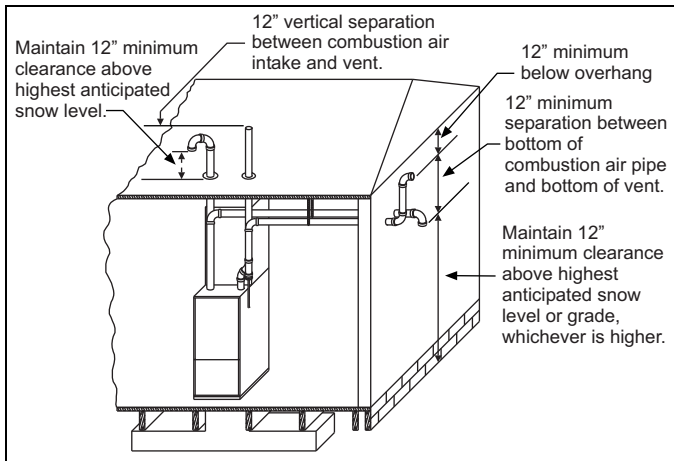
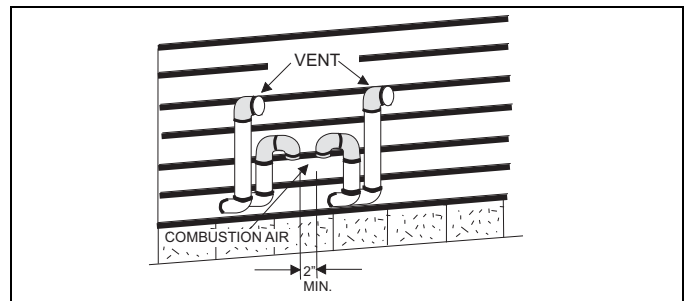

FIGURE 29: Termination Configuration - 2 Pipe
FIGURE 31: Double Horizontal Combustion Air Intake and Vent Termination
7. Direct vent systems must be installed so the vent and the combustion air pipes terminate in the same atmospheric zone. Refer to Figures 29 or 30.
The combustion air side of the two-pipe configuration shown in Figure 29 can be installed so the combustion air pipe terminates as described in outdoor combustion air or ventilated combustion air sections in these instructions. Follow the instructions for outdoor combustion air or ventilated combustion air and the instructions for installing the vent system with the vent terminating as shown in Figures 31 or 32. The two-pipe system must have a separate combustion air pipe and a separate vent pipe for each furnace. Under NO circumstances can the two combustion air or vent pipes be tied together. The combustion air and vent pipes must terminate in the same atmospheric zone.